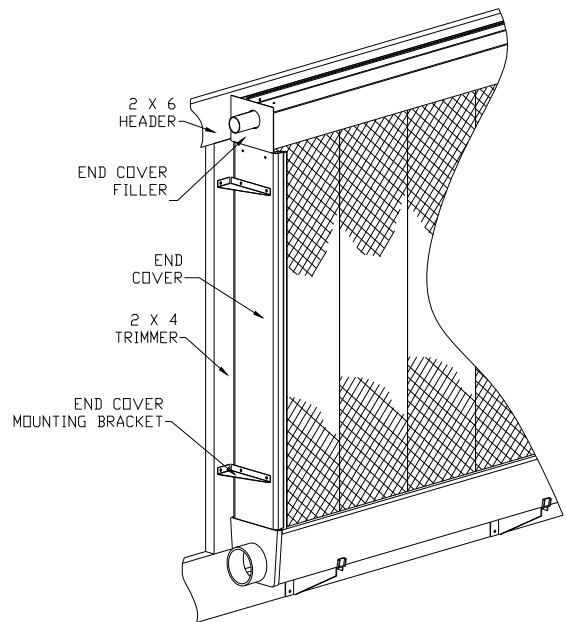

Figure 23
- Place a 10' section of $1\frac{1}{2}$ " pipe **WITH THE METERED HOLES UP** into the pipe hangers at the pump end of the Kool-Cel[®] system. Enough pipe should extend beyond the top cover support as shown in Figure 23 to later attach a PVC pipe connector for plumbing installation.
- Install a 2"x 4" trimmer in the wall mounted between the top header and bottom stringer with the inside of the 2"x 4" at the end of the Kool-Cel® system as shown in Figure 23. The system end covers fit over the end pad and attach to the 2"x 4" filler using the ¼ by 1 ½ inch stainless steel Slotted Hex Head Screws.
- Caulk the area around the pipe on the system end cover as shown in Figure 23 to eliminate any water leakage.